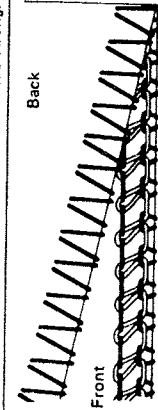

Figure 18
(1) When the tension of the lower thread is too strong (Figure 18), loosen the lower thread tension adjuster.